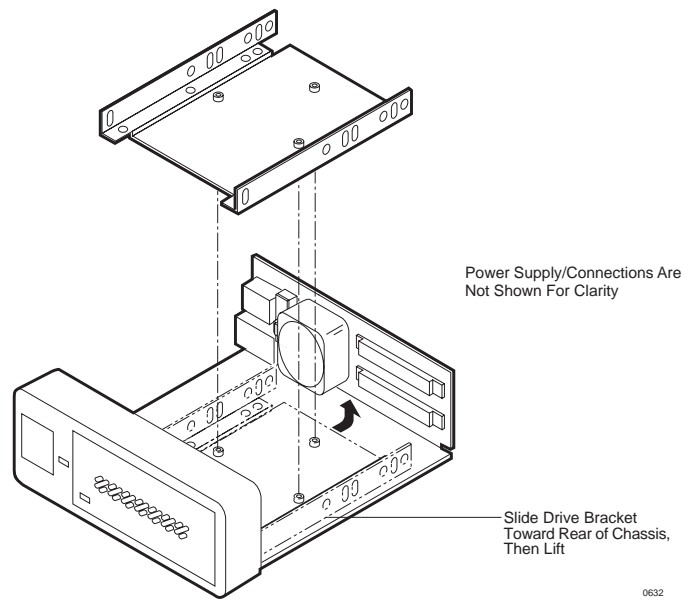

Figure 10: Removing the Drive Mounting Bracket (DS50 1-Bay Shown)
4. Remove the drive mounting bracket from the chassis by sliding it toward the chassis back panel, then lifting upward (Figure 10).